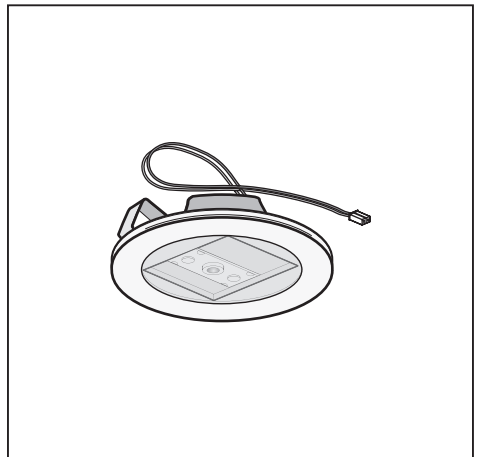

Fig.21
• Replacing LED lamps (Fig.21):